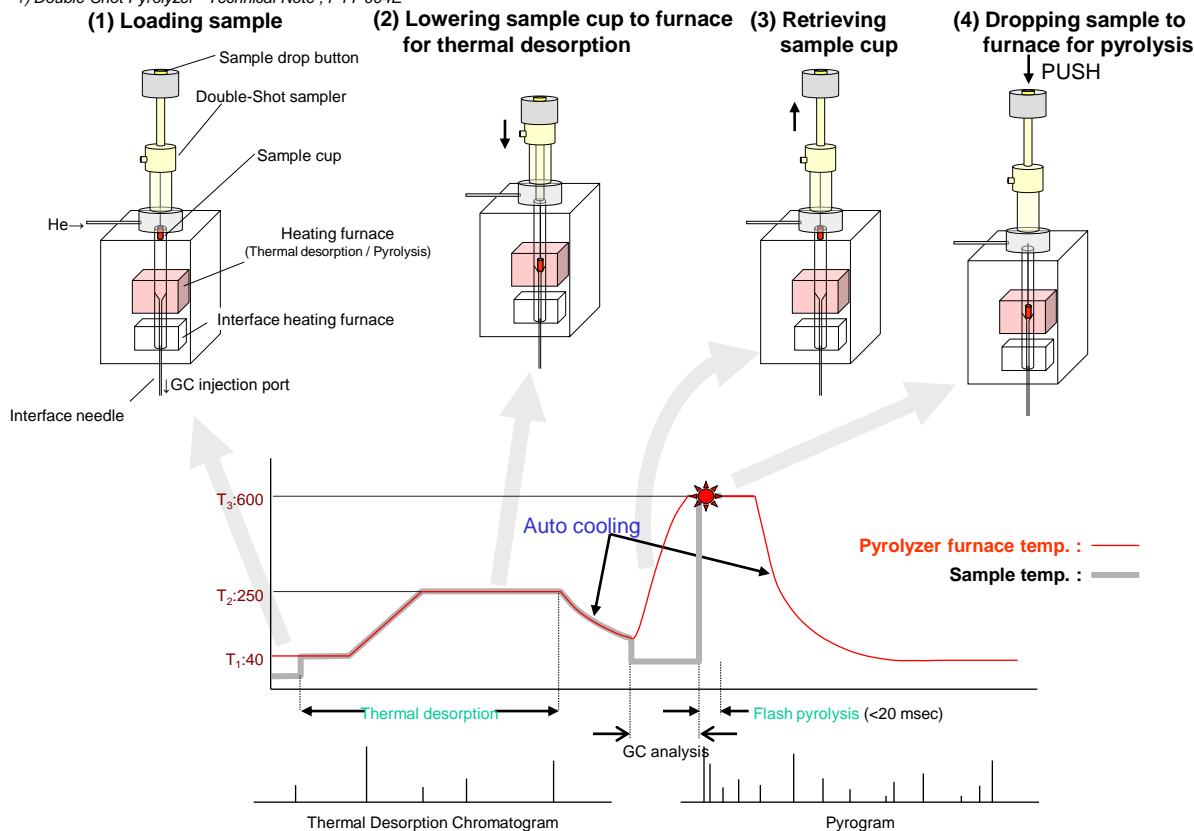

Fig. 1 Operations in Double-Shot Technique and Temperature / Chromatogram relationship
In the double-shot technique, selective thermal desorption of volatile components by programmed heating of a polymer sample is performed, followed by pyrolysis of the sample with the single-shot technique, thus providing a deferent set of information from a single polymer sample. Fig. 1 shows the sequence of operation in double-shot technique. (1) a sample cup is mounted on a double-shot sampler, which can move up and down, (2) the double-shot sampler is brought down into the heating furnace to perform thermal desorption under the temperature condition determined from the evolved gas curve¹⁾. (3) the sampler is then pulled up to the stand-by position at which temperature is room temperature. (4) volatile components produced from the thermal desorption is analyzed by GC. During this period, the furnace is heated to a higher temperature for instant pyrolysis. Upon the completion of the thermal desorption and GC issues "READY" signal, the sample is dropped to the pyrolysis furnace by pressing the sample drop button to perform instant pyrolysis.